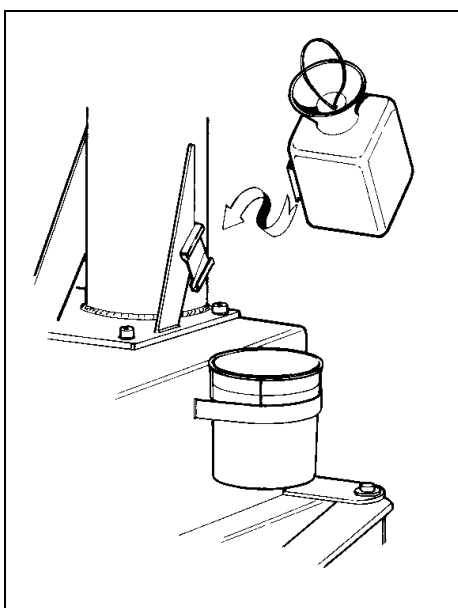

Fig.9a
F. Mount the lube pail as shown in Fig.9a